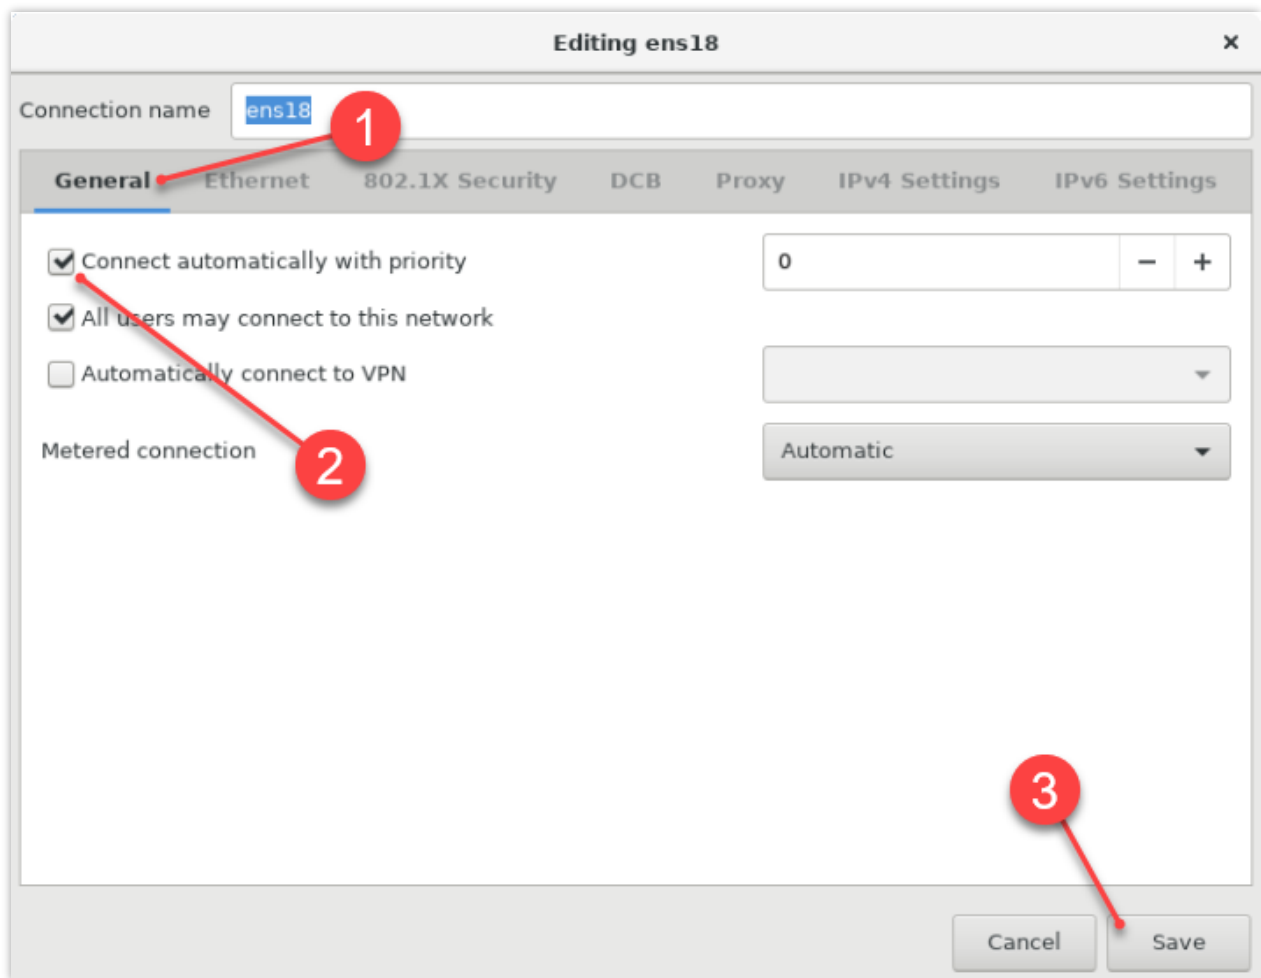

Figure 19. Setting up an automatic network connection
2. In the opened window (Figure 19), click the **General** tab.